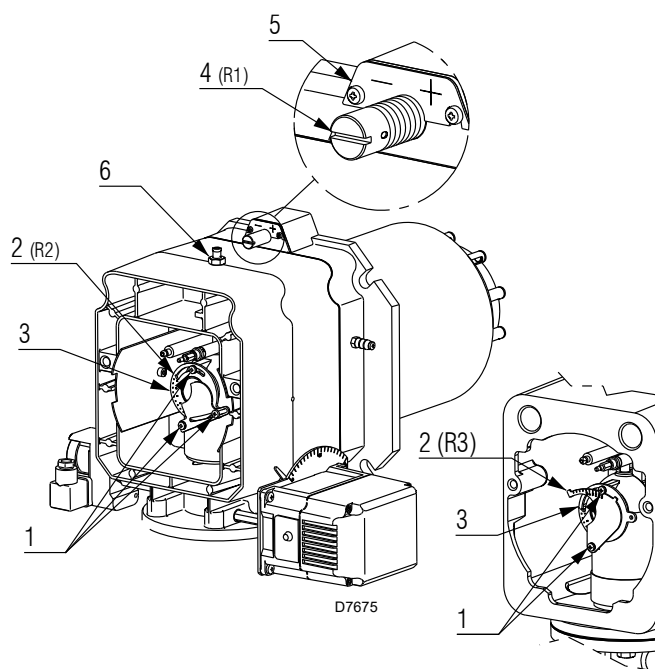

Fig. 17
- Turn the screw 4)(Fig. 17) until the notch found lines up with the front surface 5) of the flange.